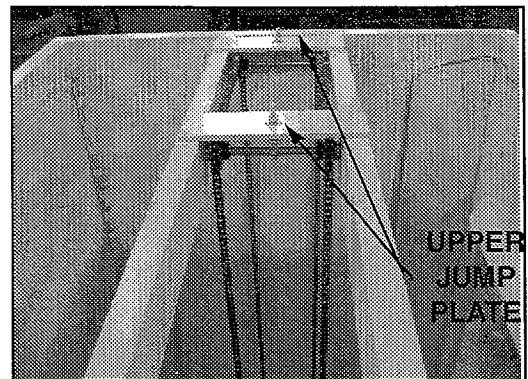

Figure 22
4. Install upper chain jump plates before running. See Figure 22.